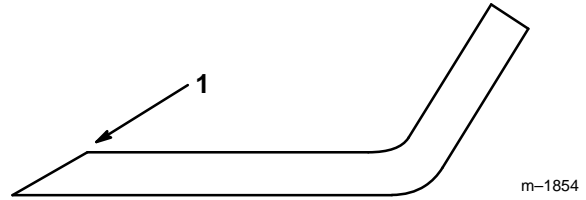

Figure 59
1. Use a file to sharpen the cutting edge at both ends of the blade (Fig. 59). Maintain the original angle. The blade retains its balance if the same amount of material is removed from both cutting edges.